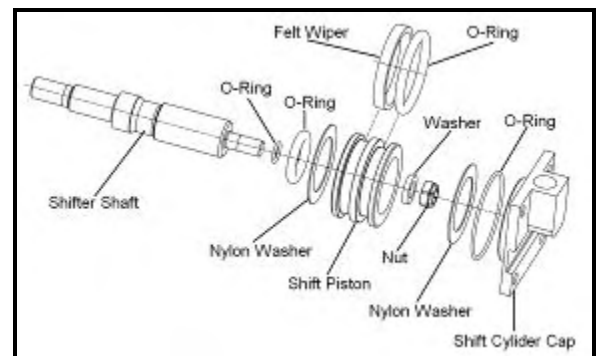

Figure 64
14. Place a nylon washer on to the shift-fork assembly. Soak the felt strip in gear oil and install it in the inner groove of the piston. Slip an O-ring around the outer groove before sliding it onto the nylon washer. The end of the piston with the counterbore should be facing outward. Place a washer on top of the piston and screw in a locknut using loctite 272 or equal. Place another nylon washer above the piston. Put an O-ring onto the shift cylinder cap. See **Figure 64**.